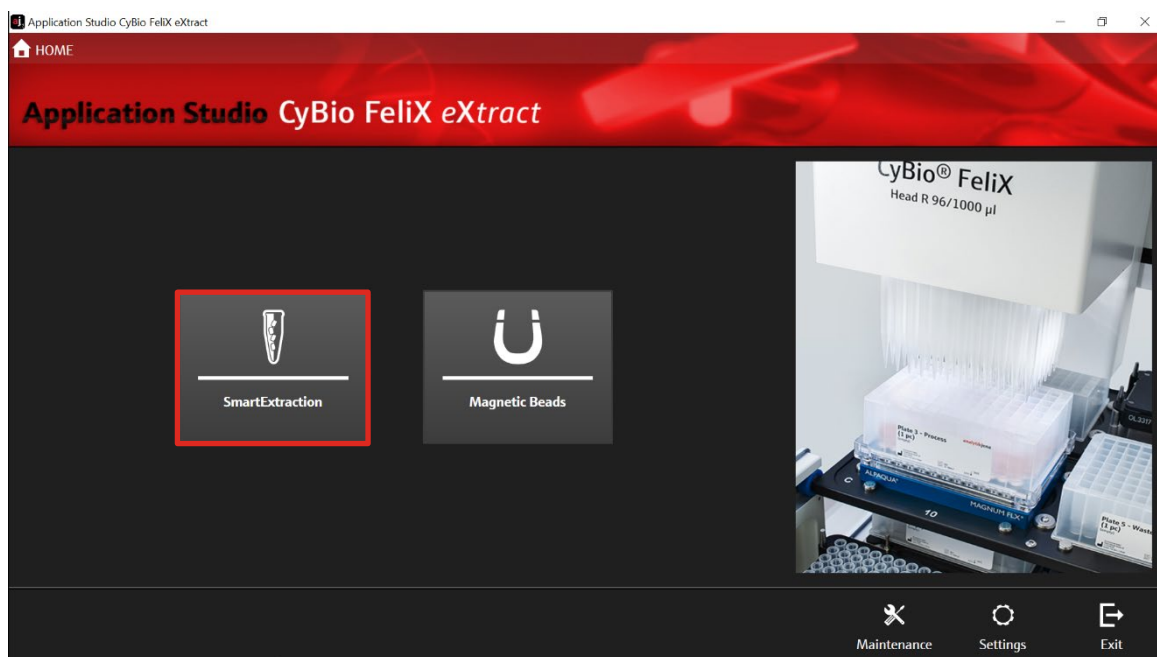

Figure 4: Homescreen of AppStudio Felix *eXtract*. Selection of kit technology: SmartExtraction.
5. Select the extraction technology “SmartExtraction” (→ see Figure 4).